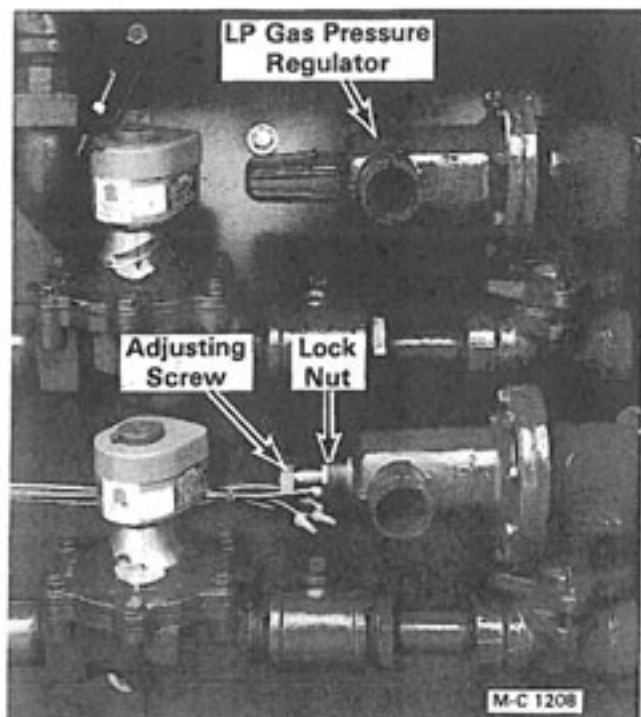
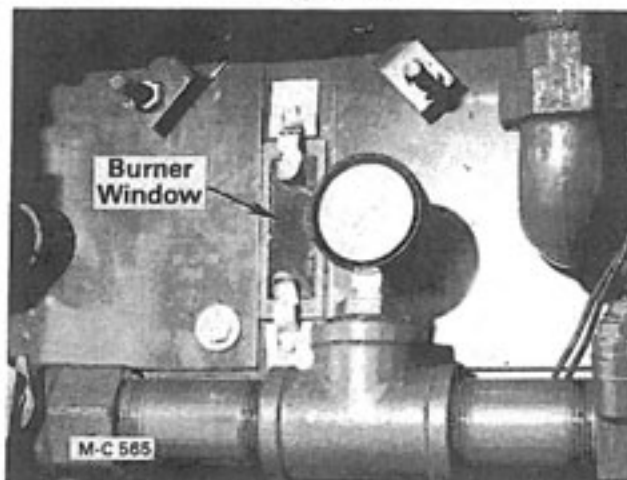

Figure 16
Figure 18
11. **LP Gas Only** - With the burner operating, check the reading on the gas pressure gauge in the manifold, see Figure 18. It should be approximately 8 to 10 pounds (less in mild weather). If not, loosen the locknut on the pressure regulator adjusting screw, see Figure 16. Turn the adjusting screw IN to increase and OUT to decrease pressure.
3. Observe the burner flame through the window behind the gas manifold, see Figure 18. The flame should be blue with a little orange in it and have a bushy ball shape.